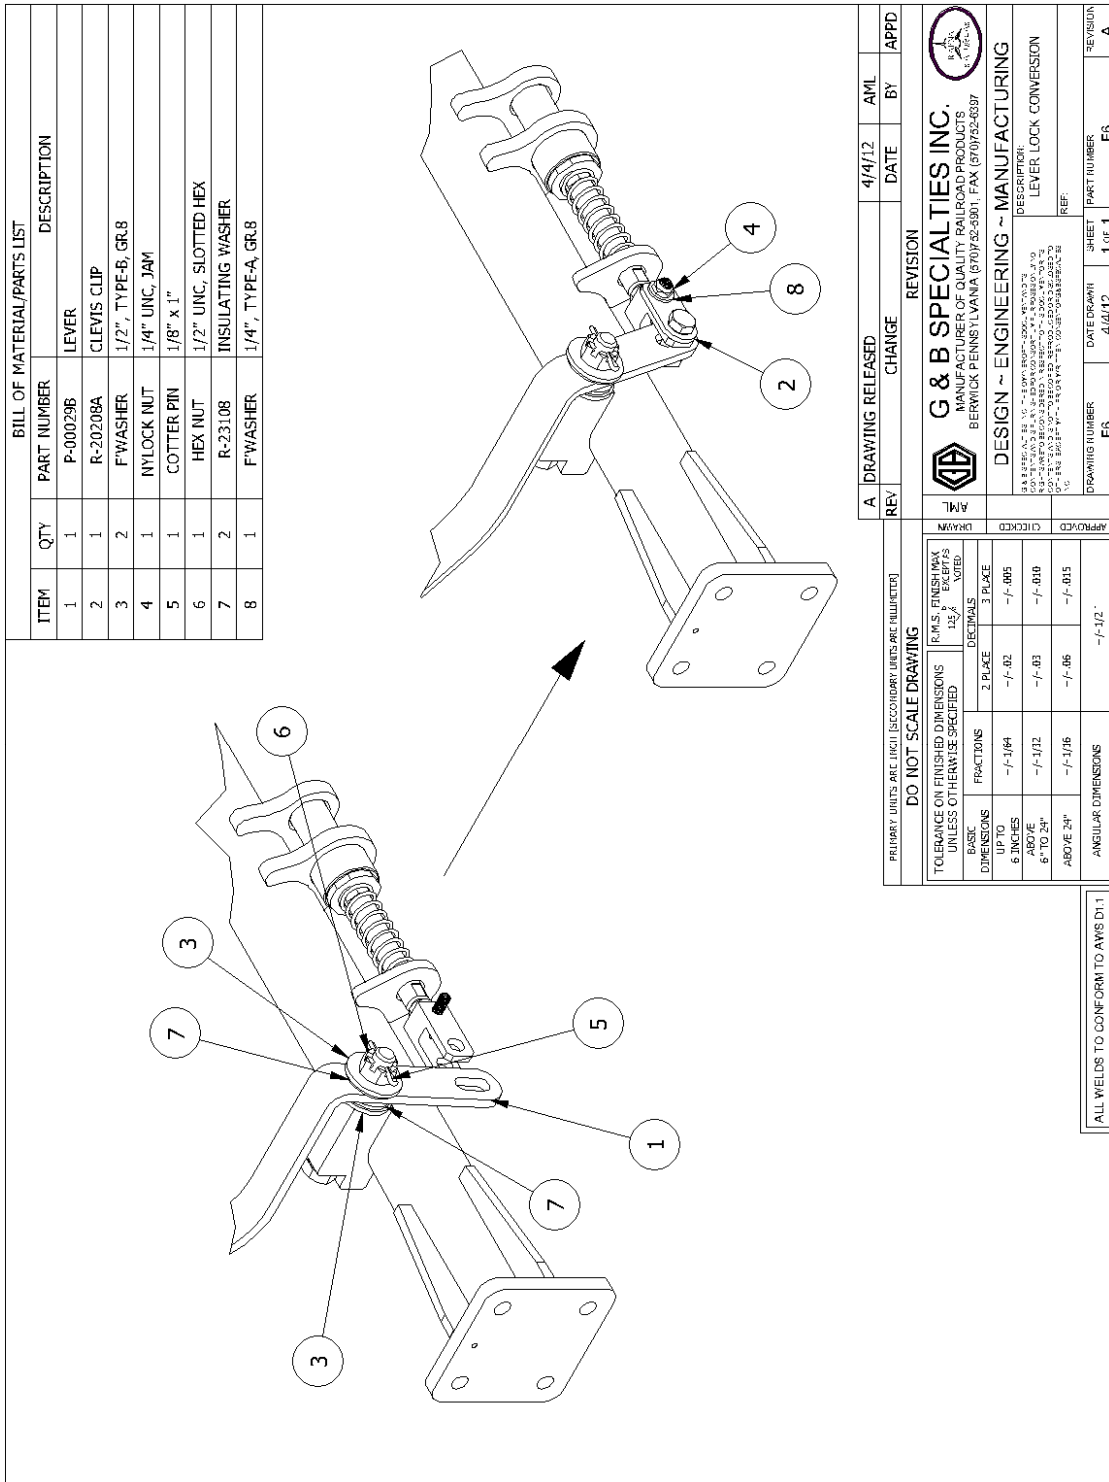

Figure 3
5. Assemble the lever to the pivot block as shown. (The lever will need to be bent to suit during installation) (Figure 3)
6. Assemble the lever to the clevis on the pull rod as shown (Figure 3)